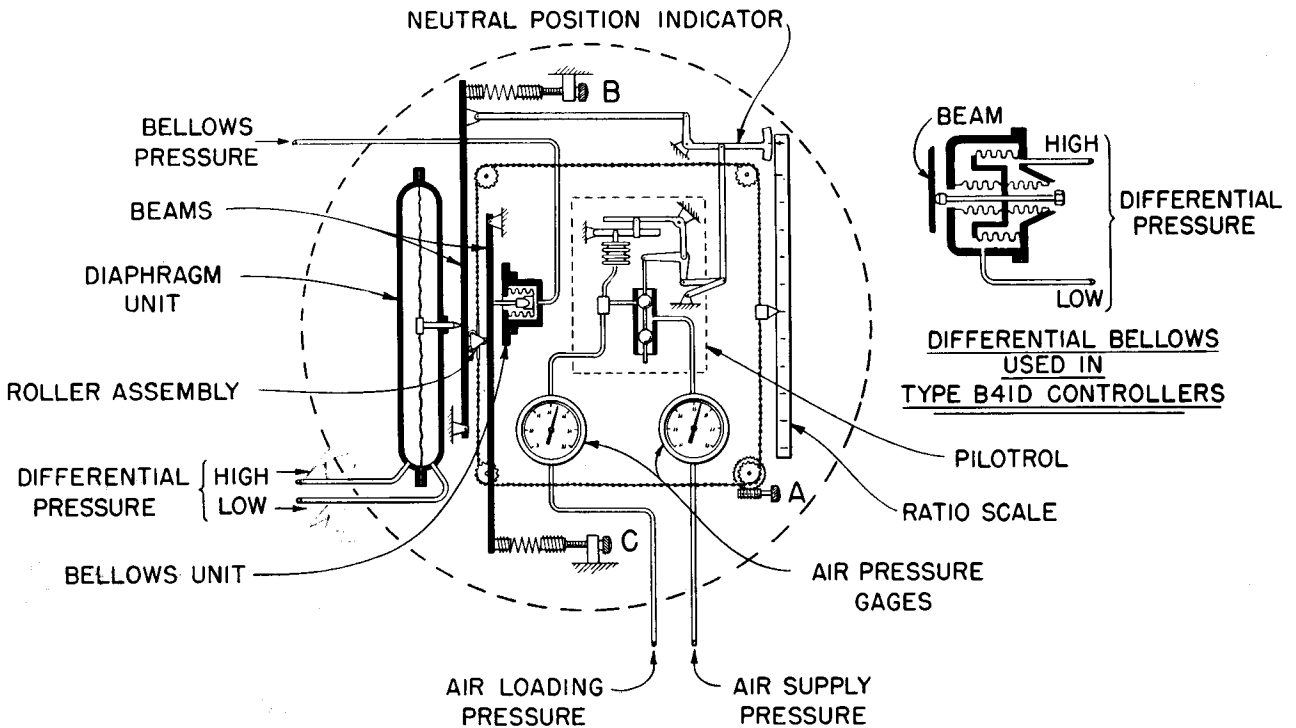
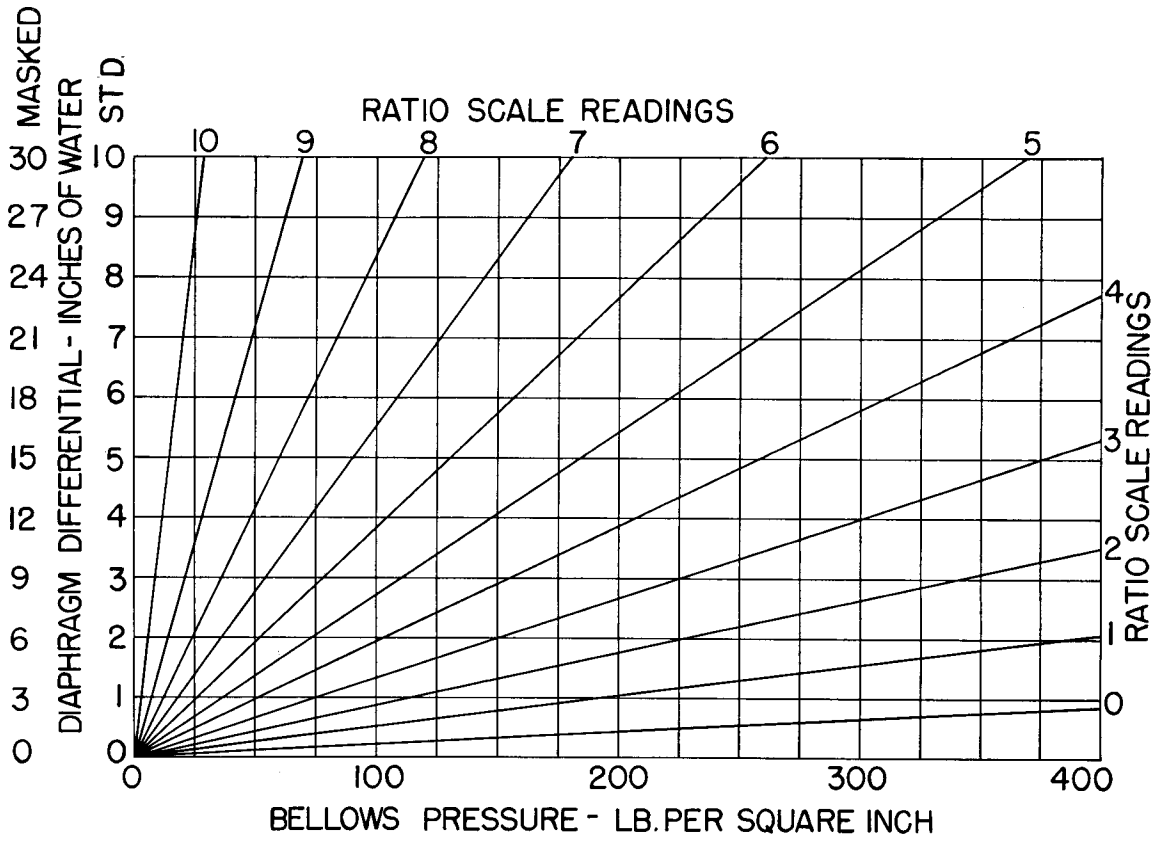
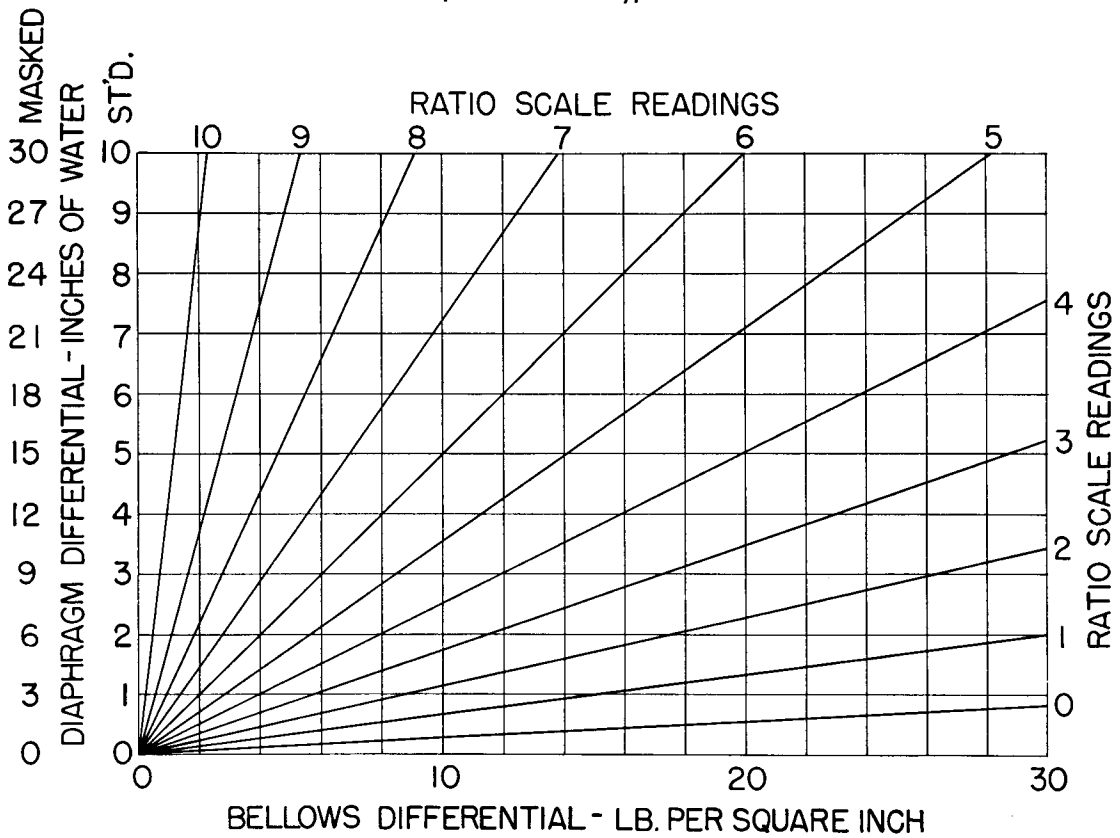

FIGURE 1
FIGURE 3
FIGURE 4
of the roller assembly between the beams. (This relation is shown by Figures 3 and 4.) Thus if the roller assembly is moved up, the lever arm of the rear beam is increased and the lever arm of the front beam decreased which gives a greater mechanical advantage to the front pressure element. Then, to keep the beams in the neutral position the pressure or differential of the rear pressure element must be increased, or the pressure or differential of the front element decreased, in proportion to the change in mechanical advantage.
Turn knob "A" (Figure 1) to change ratio scale reading. (See Figures 3 and 4.) Clockwise rotation increases reading.
Turn knob "B" (Figure 1) counterclockwise to suppress diaphragm.
Turn knob "C" (Figure 1) clockwise to suppress bellows.
Plot at least one high rating and one low rating point on the appropriate curve, Figure 3 or Figure 4. More points can be plotted for greater accuracy. A straight line drawn through the greatest number of points will show the desired characteristic. The point at which this line intersects the base coordinate indicates the element to be suppressed and the amount of suppression required. A line drawn parallel to the characteristic line and passing through zero will indicate the required ratio scale reading.
3. Turn knob "C" (Figure 1) clockwise as far as possible.
4. Turn knob "B" (Figure 1) to bring operation indicator to mid-position with no pressure on bellows or diaphragm.
6. Turn knob "C" (Figure 1) counterclockwise until a loading pressure of 15 pounds per square inch is obtained.